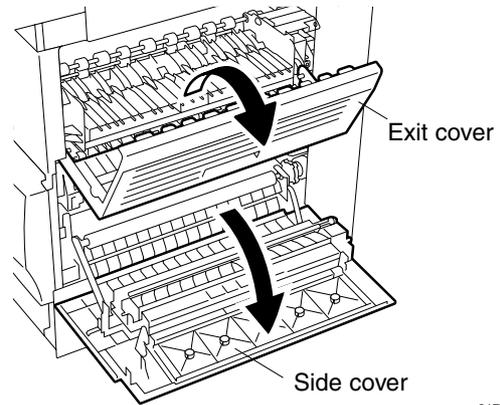

Fig. 2-6-19
8. Detach front frame covers F and R. (See Fig. 2-6-19 and 2-6-20)
7. Open side cover. (See Fig. 2-6-19)
8. Open exit cover. (See Fig. 2-6-19)
10. Detach front frame cover F and front frame cover R. (See Fig. 2-6-19 and 2-6-20)